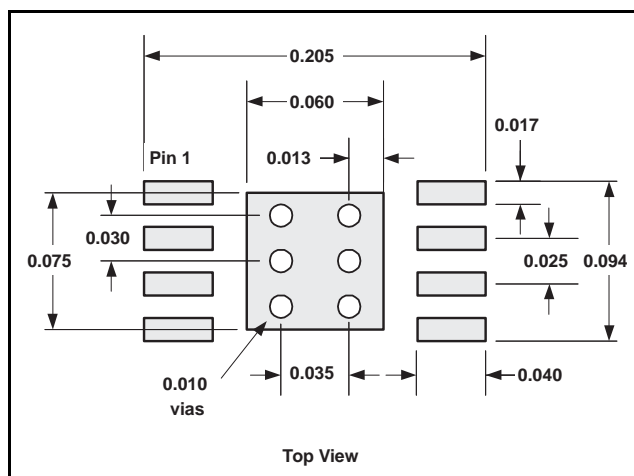

Figure 51. DGN PowerPAD PCB Etch and Via Pattern
1. Prepare the PCB with a top-side etch pattern as shown in Figure 51. There should be etch for the leads as well as etch for the thermal pad.